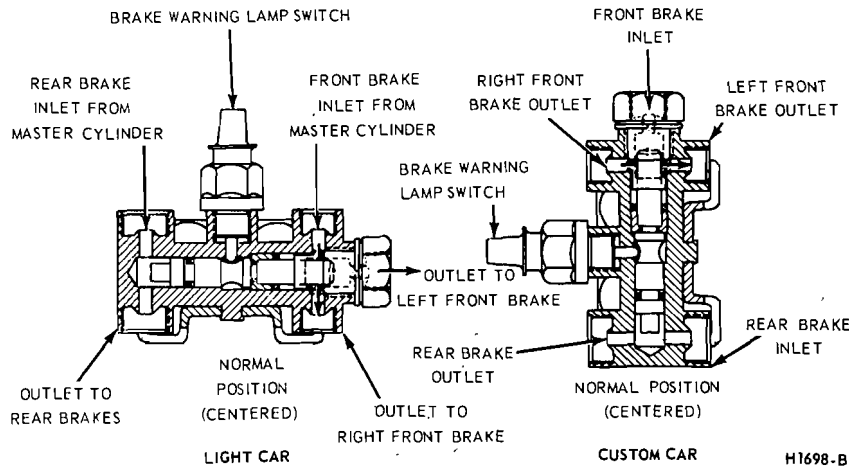

FIG. 4 Pressure Differential Valve and Brake Warning Light Switch
The dual-master cylinder brake system has been incorporated in all models to provide increased safety. The system consists of a dual-master cylinder (Fig. 3), pressure differential valve assembly and a switch (Fig. 4). The switch on the differential valve activates a dual-brake warning light, located on the instrument panel.
2. Reverse the tool as shown in Fig. 4 and adjust the brake shoe diameter to fit the gauge. Hold the automatic adjusting lever out of engagement while rotating the adjusting screw, to prevent burring the screw slots. Make sure the adjusting screw rotates freely. If necessary, lubricate the adjusting screw threads with a thin, uniform coating of grease (ESA-M1C75-B).